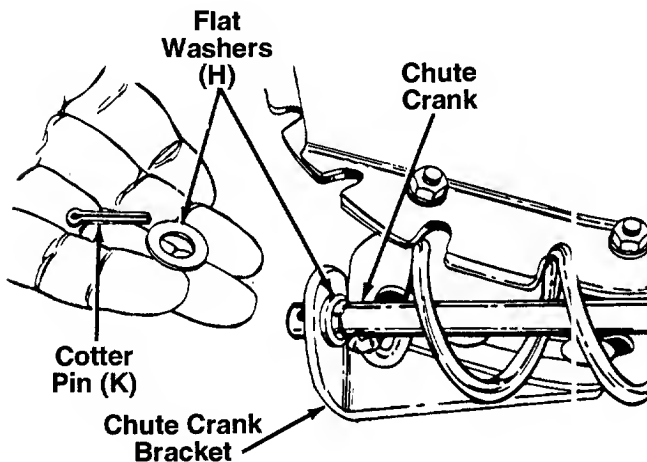

FIGURE 10.
13. Place one flat washer (H) on the end of the chute crank, then insert the end of the crank into the hole in the plastic bushing in the chute crank bracket. See figure 10. Place the other flat washer (H) on the end of the chute crank, and insert cotter pin (K) into hole in the end of crank. Secure by bending the ends of cotter pin in opposite directions.